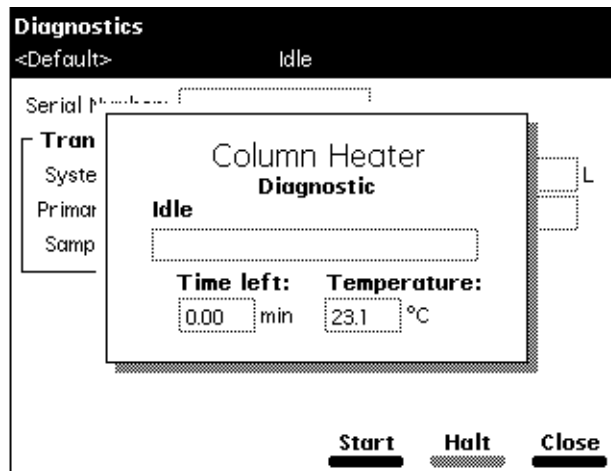

Figure 8-21 Column Heater Diagnostic Screen
1. Select **Column heater** in the Other Diagnostics screen, then press **OK**. The Column Heater test screen appears (Figure 8-21).